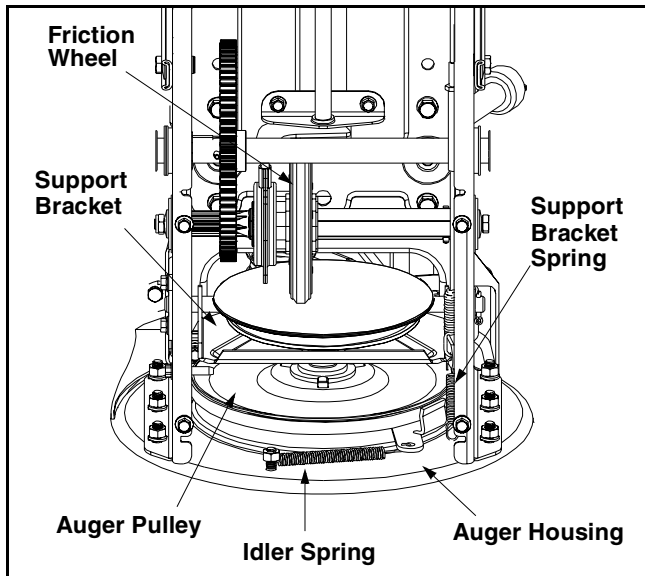

Figure 18
- Unhook the idler spring from the hex bolt on the auger housing. See Figure 18.